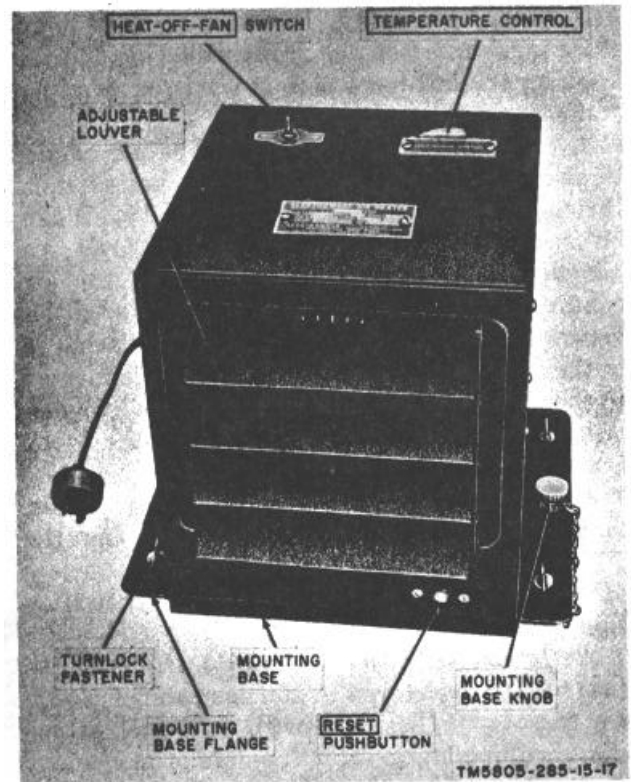

Figure 20. Electric heater.
a. *Electric Heaters.* (fig. 20). The electric heaters are secured in their mounting bases on the floor of the van (figs. 14 and 15). Each heater contains a 1.5-kilowatt heating element and a fan for air circulation. The fan operates when the heater is turned on, but may also be operated independently. Horizontal louvers on the front of the heater are adjustable to deflect the